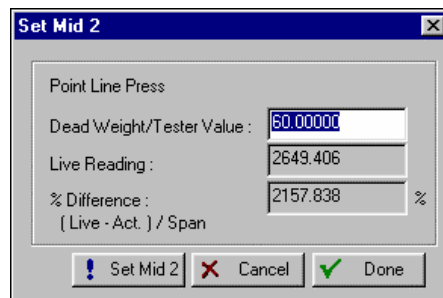

Figure 8-7. Set Midpoint 2
16. When the Live Reading is stable, click **Set Mid 1** to calibrate this reading. The display advances to the Set Midpoint 2 window, as in Figure 8-7.